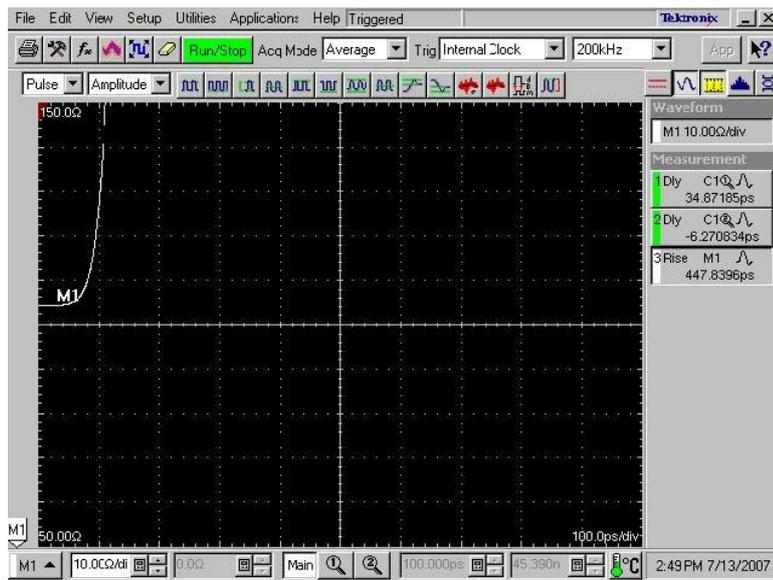

Figure 11 TDR rising edge waveform
8. Adjust the **HORIZONTAL POSITION** knob so that the rising edge of the waveform is displayed at near 1 major division from the left edge of the screen (see Figure 11).